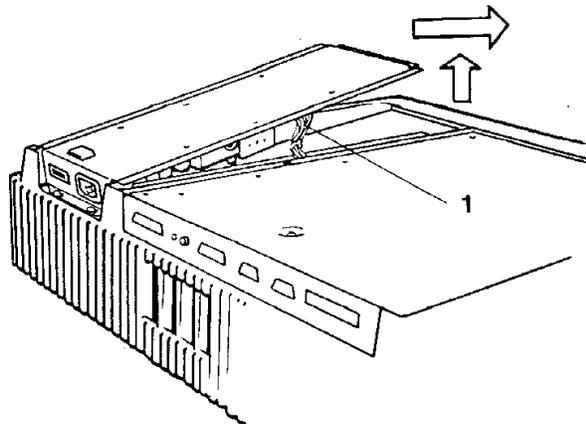

FIGURE 6
5. Lift up the edge of the power supply and slide it until it clears the two rear mounting screws. Lift the power supply out. (See Figure 6).
7. Disconnect the power supply connector by squeezing in on the tabs and gently (with a rocking motion) pull the connector out. (See Figure 6, Item 1).